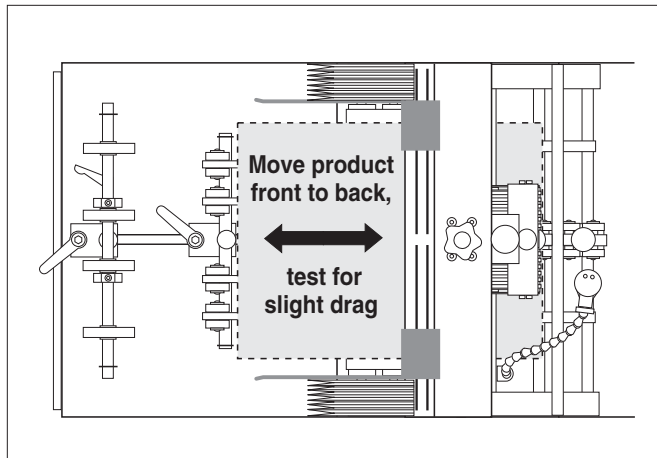

Figure 2-2. Using One-Piece Thickness of Product to Set Gap
2. Grasp the product with two hands and slide front-to-back under the gate assembly (Figure 2-2). A proper adjustment allows a “slight” drag on one-piece thickness of product.